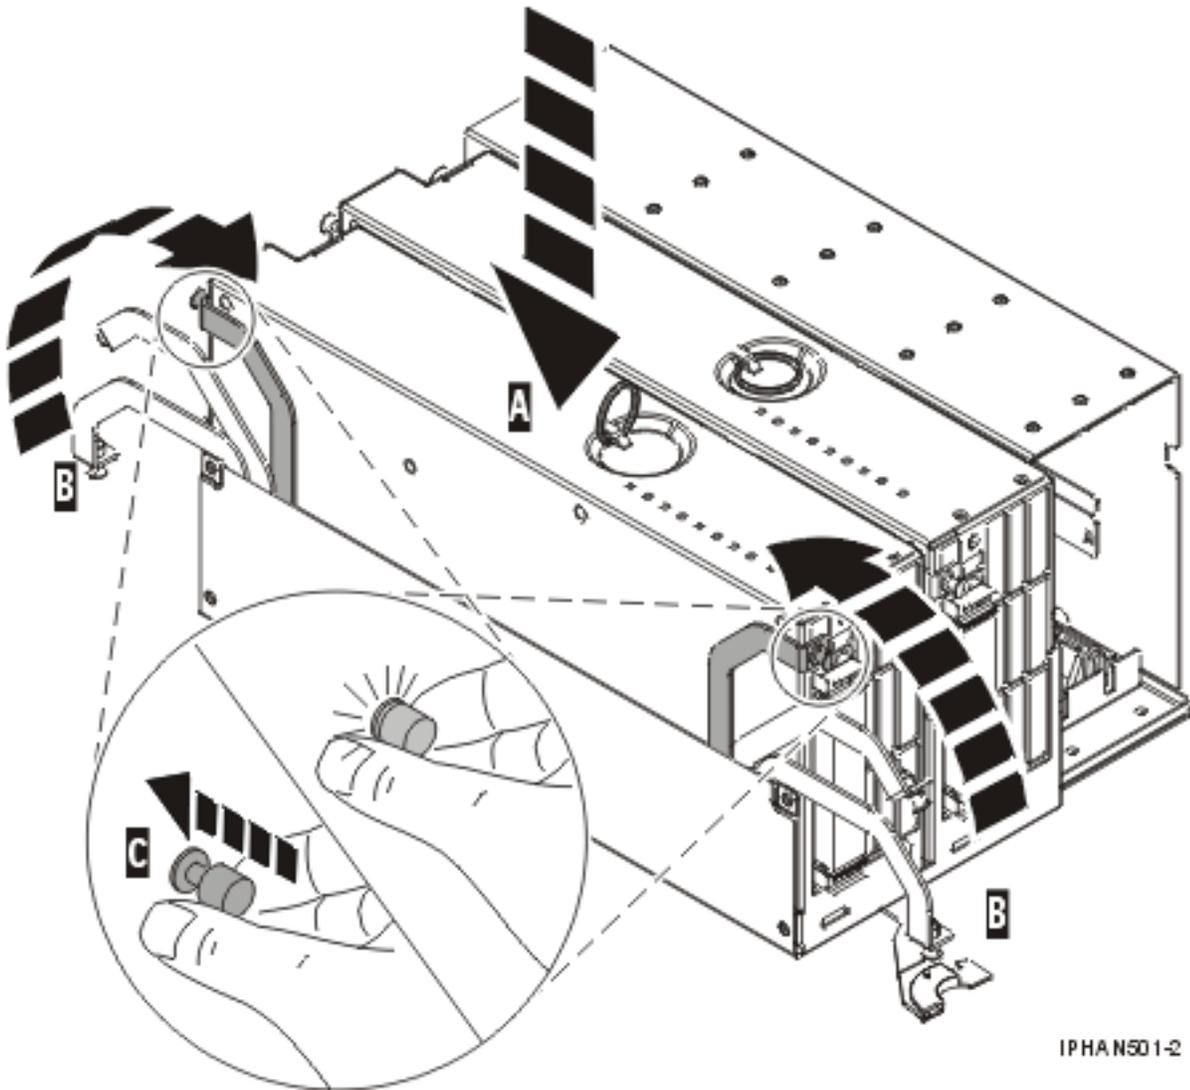

Figure 11. Replace the model 9116-561 or 570 backplane assembly
1. As shown in Figure 11 on page 18, place the system processor assembly into the system backplane assembly **A** using the location information that you recorded during the removal procedure. Lock the system processor assembly into place with the locking arms **B**. Press in on the locking knobs **C** until you feel them lock into place. Replace all processor assemblies that were removed earlier.